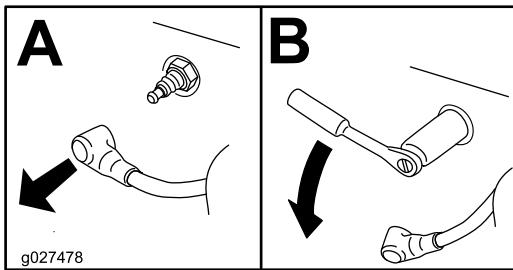

Figure 45
- Remove the spark plug (Figure 45).